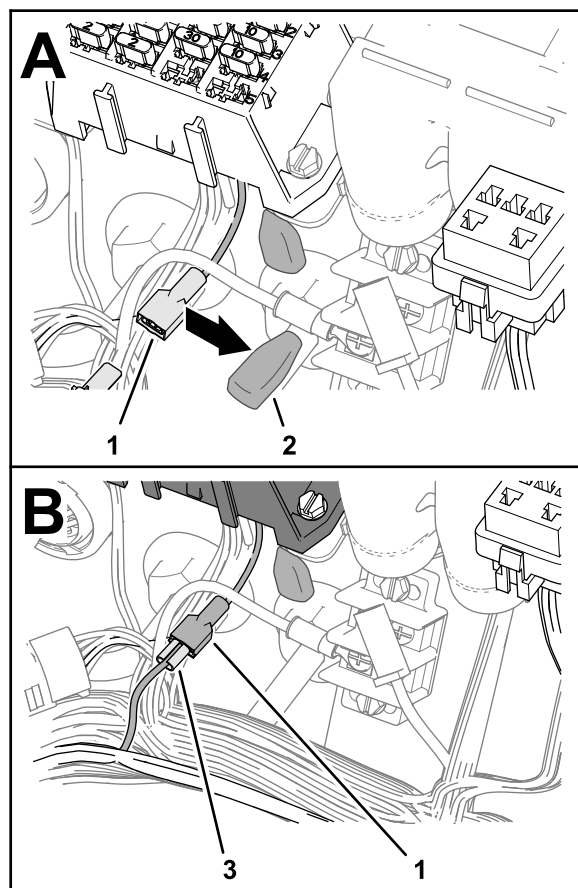

Figure 10
1. At the bottom of the fuse block, locate the wire attached to socket C5 of the block and remove the shrink-wrap insulator from the terminal receptacle (Figure 10).
2. Plug the spade connector of the kit wire harness (Figure 10) into the terminal receptacle for the options power wire (fuse-block socket C5).